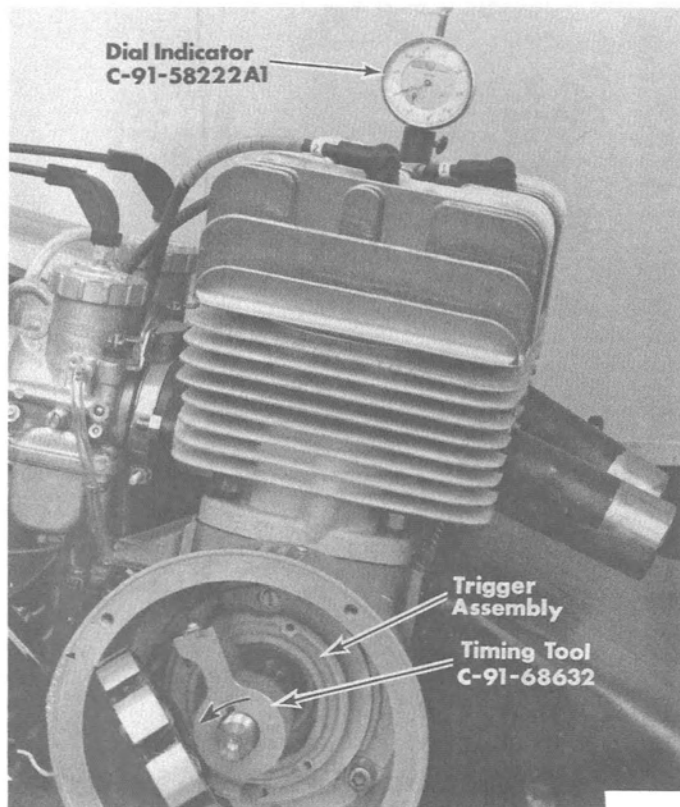

Figure 4. Timing Adjustment
7. Install Dial Indicator (C-91-58222A1) in No. 1 (PTO side) cylinder spark plug hole. (Figure 4)
9. Align Timing Tool (C-91-68632) with crankshaft key and install tool on crankshaft taper as far as possible. (Figure 4)